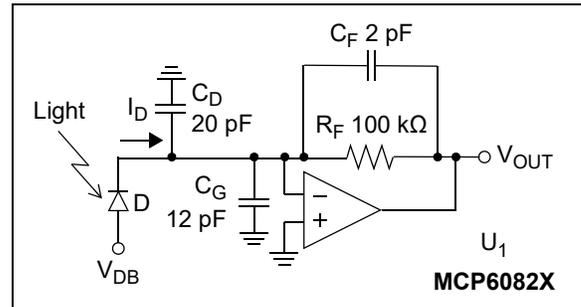

FIGURE 4-9: Photodiode Detector Circuit.
The circuit in Figure 4-9 has a photodiode detector (D) that has parasitic capacitance, C_D and produces an output current, I_D . V_{DB} biases the photodiode detector so that it is either in photovoltaic mode (at 0V, like U_1 's noninverting input) or photoconductive mode (less than 0V). Photovoltaic mode has a linear response to light, while photoconductive mode is faster.
Other photovoltaic detector circuits come with different trade-offs. The circuit in Figure 4-9 is faster than a circuit that does not require C_F , but needs a much faster operational amplifier. Other implementation details can vary as well.